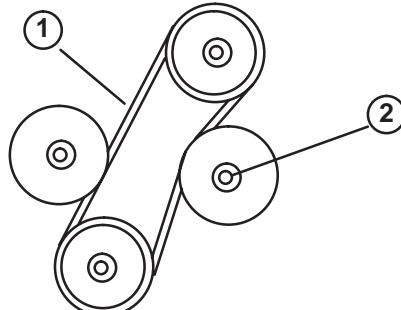

Figure 56
3. Belt should deflect 1/4 in. (6 mm) midway between the pulleys with 5 lb. force (22 n) (Fig. 56). If deflection is incorrect, proceed to step 4. If correct, proceed to step 5.
4. Loosen locknut securing adjustable idler pulley (Fig. 56). Push idler pulley against belt until proper deflection is achieved and tighten idler pulley locknut (Fig. 56).
2. Loosen locknut securing adjustable idler pulley, slide pulley away from belt, and remove belt from pulleys (Fig. 56).
3. Install new belt and adjust for proper tension. Push idler pulley against belt until belt deflects 1/4 inch (6 mm) with 5 lb. force (22 N·m) midway between top pulley and stationary idle pulley. Tighten idler pulley locknut to secure adjustments (Fig. 56).